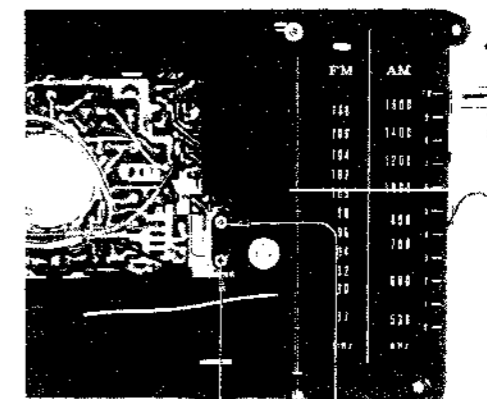

Fig. 5-2 Printed circuit board removal
1. Remove four screws marked with X in Fig. 5-1 and Fig. 5-2.